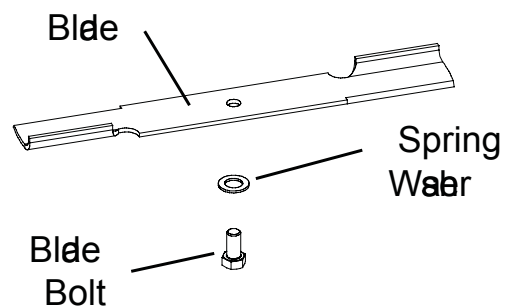

Figure 9
- ◆ Reinstall blades. Refer to Figure 9 for further information